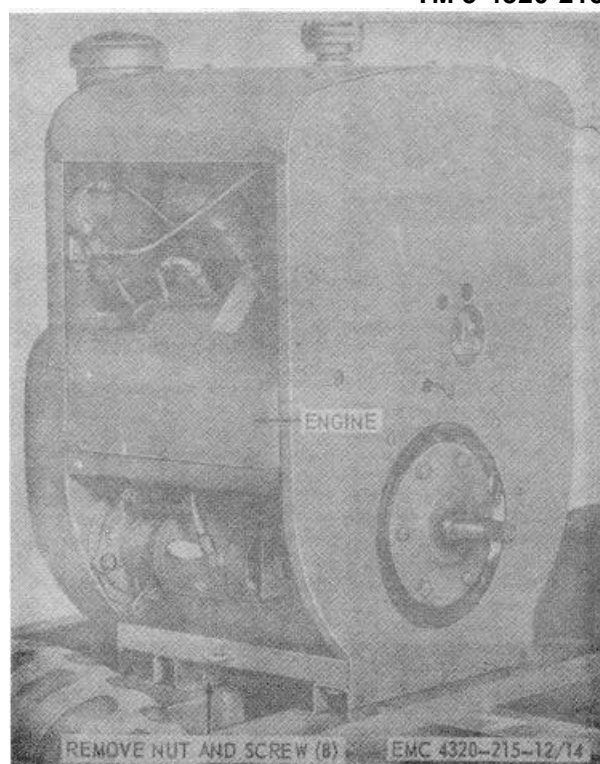

Figure 14. Engine, removal and installation.
- g. Remove and install the engine as shown by figure 14.